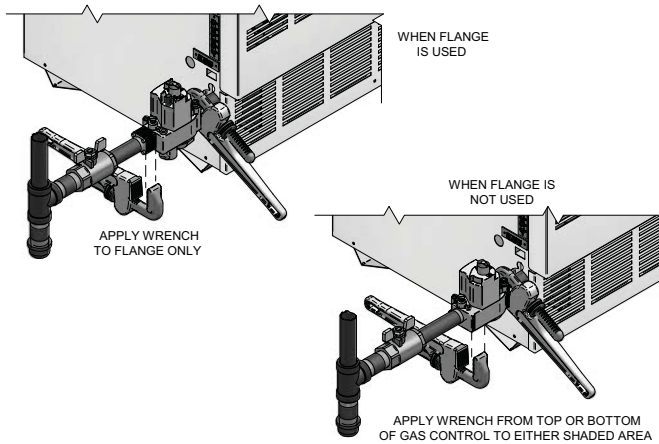

Figure 3-2 Wrench
7. Connect pipe to gas valve or manifold inlet. Use wrench to square ends of the gas valve (FIG. 3-2).